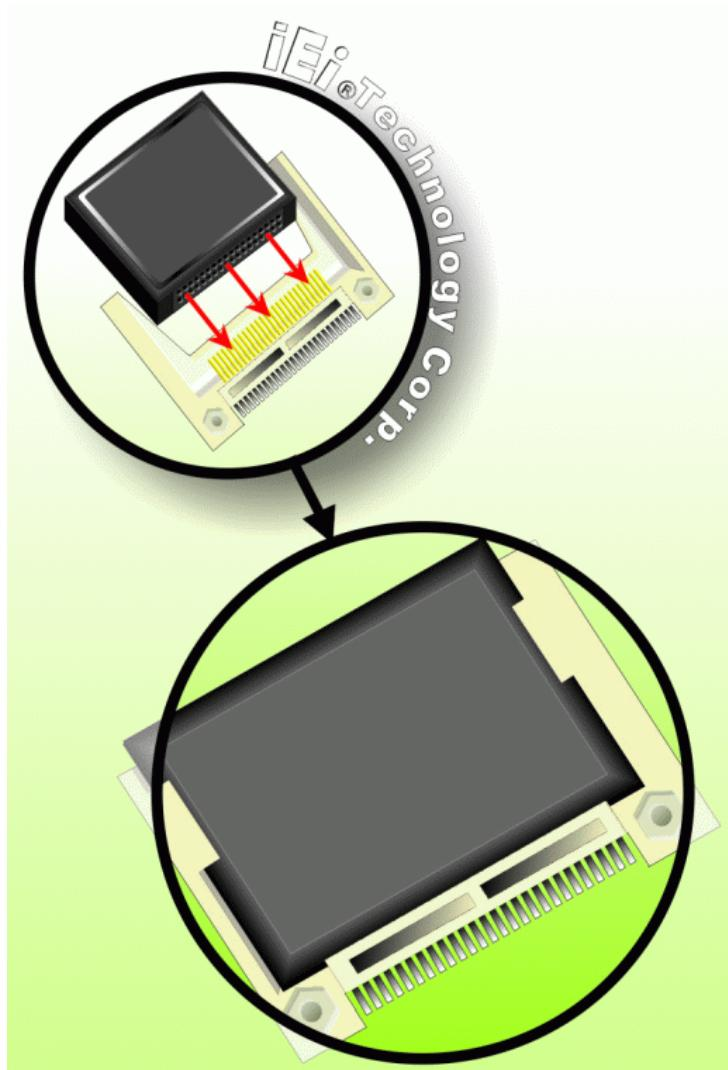

Figure 5-7: CF Card Installation
Step 3: **Insert the CF card.** Gently insert the CF card into the socket making sure the socket pins are properly inserted into the socket. See **Figure 5-7**.